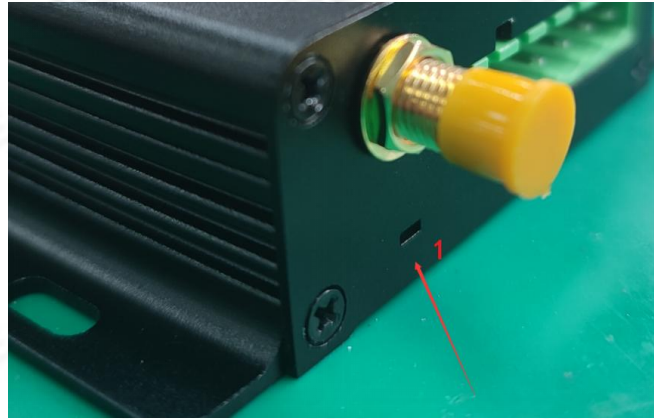

Figure 4-21 Factory reset button (press and hold a toothpick for 3 seconds)
(1) Method 1: Restore factory settings
A. Press and hold the "SFR" reset button for 3 seconds (as shown in Figure 4-21 below), and the "pairing method" can be reset to the factory setting: one-to-one.